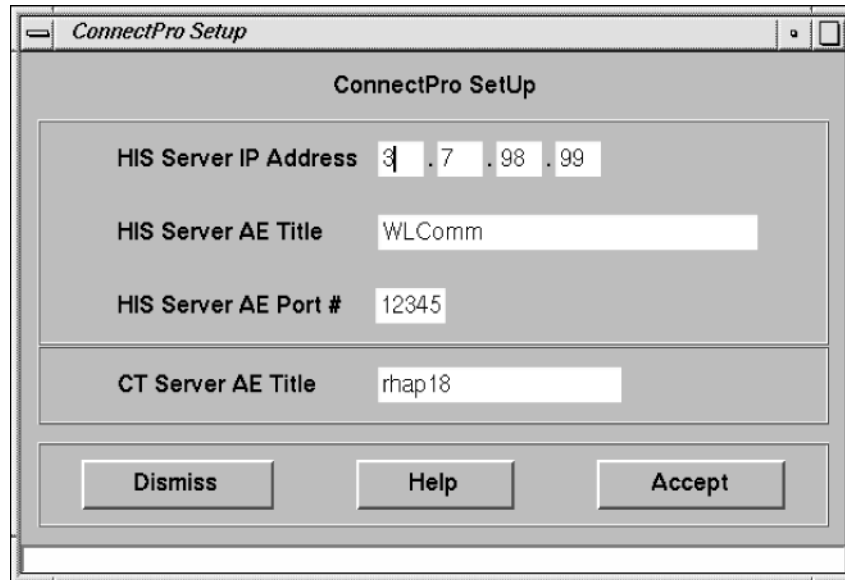

Figure 8-5 ConnectPro Setup Screen
- the console displays the ConnectPro Setup window as shown in Figure 8-5.